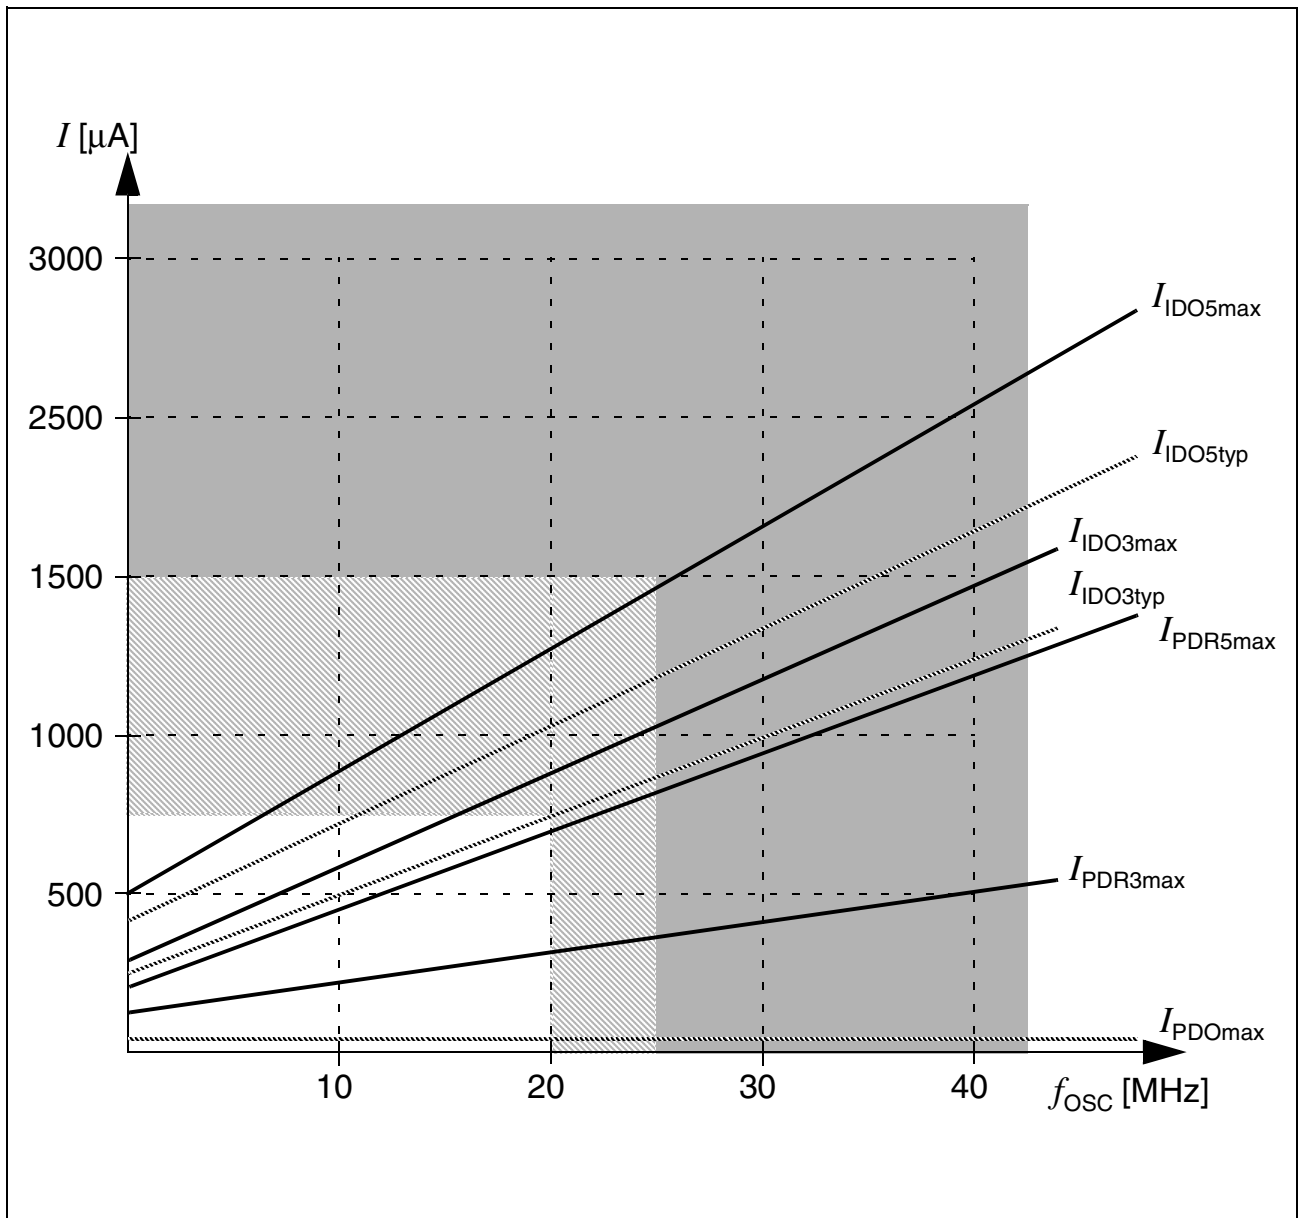

Figure 9 Sleep and Power Down Supply Current as a Function of Oscillator Frequency
- 2) This parameter is determined mainly by the current consumed by the oscillator (see Figure 9). This current, however, is influenced by the external oscillator circuitry (crystal, capacitors). The values given refer to a typical circuitry and may change in case of a not optimized external oscillator circuitry.